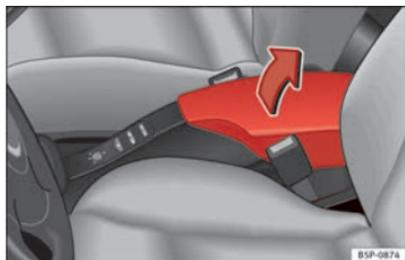

Fig. 95 Front armrest with storage compartment
- To open the storage compartment, lift the armrest up in the direction of the arrow ⇒ Fig. 95 and then lift the cover.